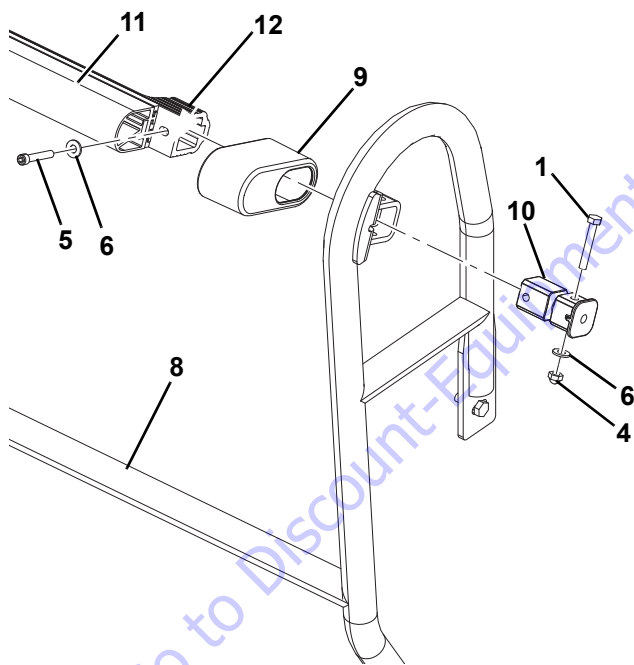

Figure 4-43.
4. Position SkyGuard switch assembly with sensor cover onto the SkyGuard Support Bracket (8) as shown in Figure 4-43..
5. Insert a Shear Block Support (10) through shear block housing on the SkyGuard support bracket and into the platform sensor mount. See Figure 4-43.
6. Secure the shear block on welded mount of SkyGuard support bracket using Bolt (1), relevant Washer (6) and Acorn Nut (4) as shown in Figure 4-43.
7. Secure the SkyGuard switch assembly using Bolt (5) and relevant Washer (6) on platform sensor mount. See Figure 4-43.
WHEN THE SKYGUARD IS PUSHED WITH EXCESSIVE FORCE THE SENSOR SUPPORTS (ITEM 10 - FIGURE 4-43.) WILL BREAK. REPLACE WITH NEW SENSOR SUPPORTS BEFORE CONTINUING OPERATION OF THE MACHINE.